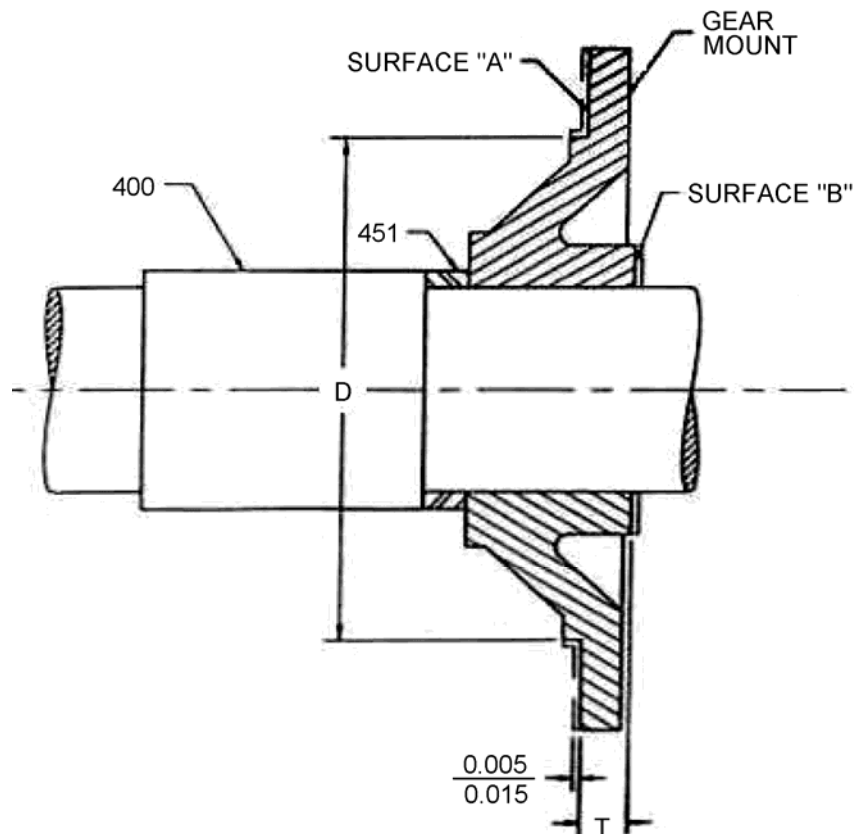

Figure 9 Gear Mount Machining
9.0 Machining of New Gear Mount (Refer to Figure 9)